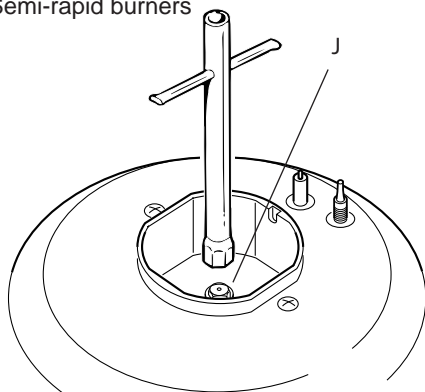

Fig. 2.5
- Using a wrench, substitute the nozzle injectors "J" (figs. 2.5, 2.6, 2.7) with those most suitable for the kind of gas for which it is to be used.